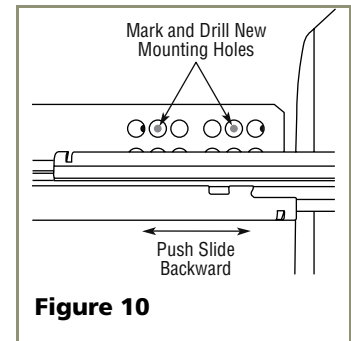

Figure 10
3. Mark new drilling holes using different sets of mounting holes on the slide. See **Figure 10**.